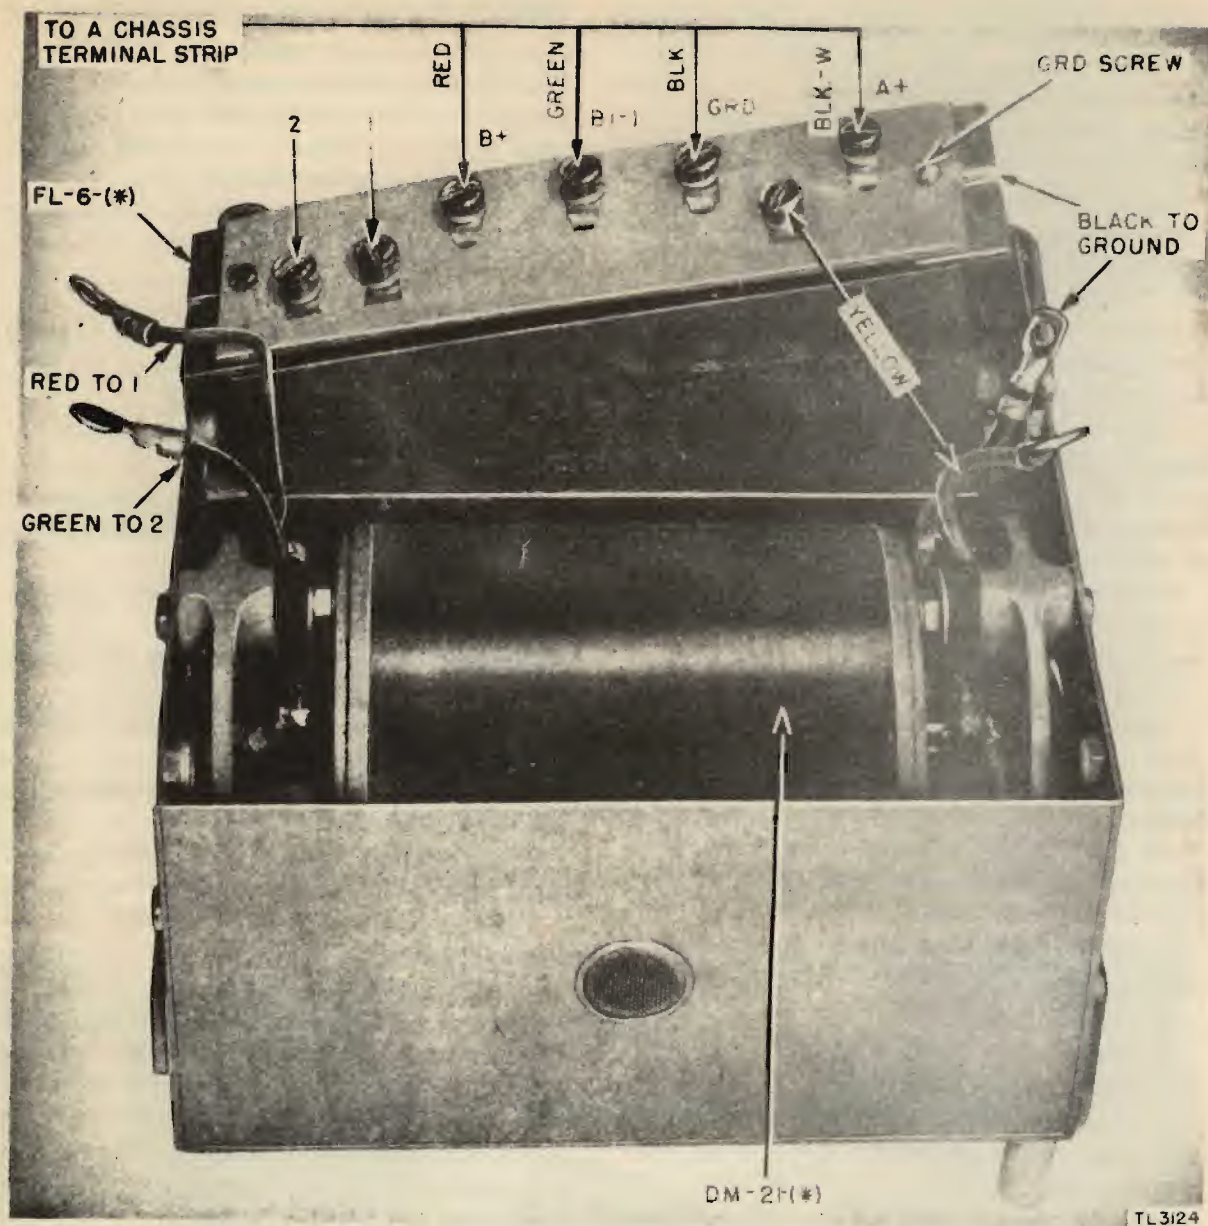

Figure 9. Filter FL-6-(\*) and Dynamotor DM-21-(\*)
- (1) Insert the spacer shims in the bearing bracket; mount the bearing bracket on the low-voltage end of the stator assembly.
- (2) Connect the wires to the brush holder.
- (3) Insert the spacer shims in the bearing bracket; slide the bearing on the high-voltage end of the armature into the high-voltage bearing bracket.
- (4) Slide the armature into place through the stator assembly.
- (5) Insert the tie bolts through the stator assembly and tighten the nuts.
- (6) Connect the wires to the high-voltage brush holder.
- (7) Check end play in armature (should be 0.005 to 0.015 in.).
- (8) Pack outer side of each bearing two-thirds full of Grease, General Purpose No. 2, U. S. specification 2-108; replace grease-retainer cap screw.
**e. FILTER PACK (Figs. 9 and 10).** If the dynamotor output voltage is low, if no output is obtained, or if the dynamotor will not start when connected to Filter FL-6-(\*), check chokes and capacitors for open or short circuits.